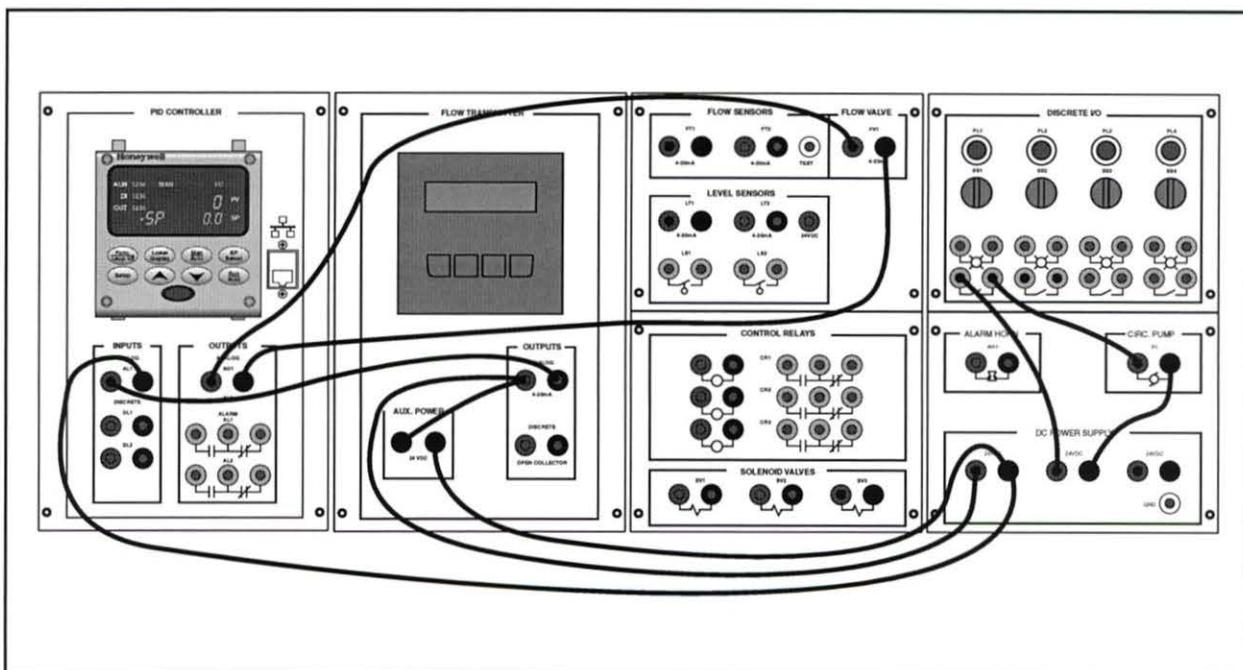

Figure 53. Flow Control Circuit
F. Connect the circuit shown in figure 53.